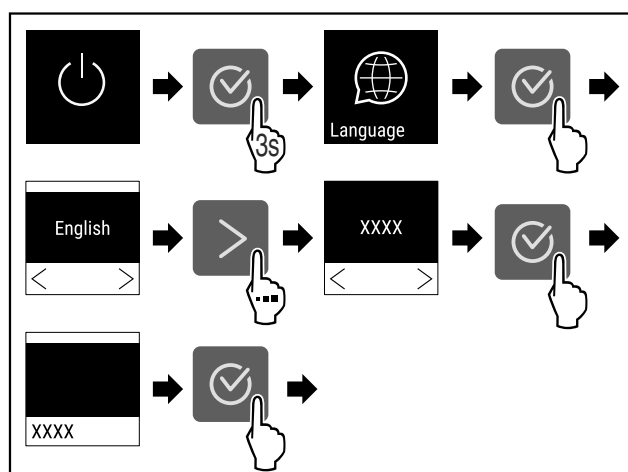

Fig. 52
- ▶ Complete steps (see Fig. 52) .